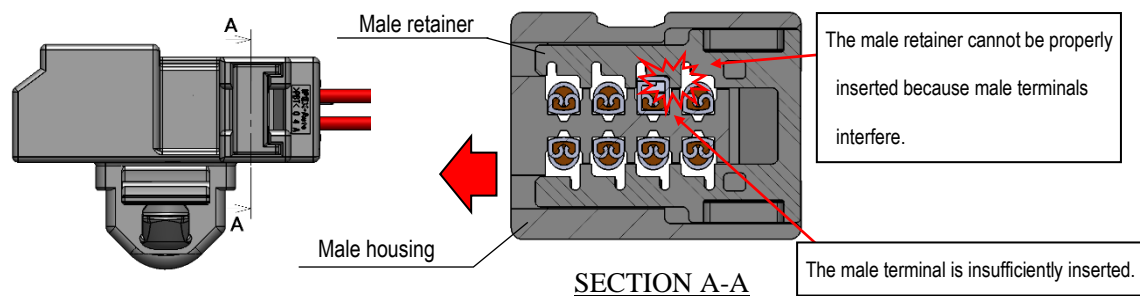

Fig.34 Insufficient male terminal insertion
- When male terminals are insufficiently inserted as shown in Fig.34, the male retainer cannot be installed. Insert the male terminals completely, and install the male retainer again.